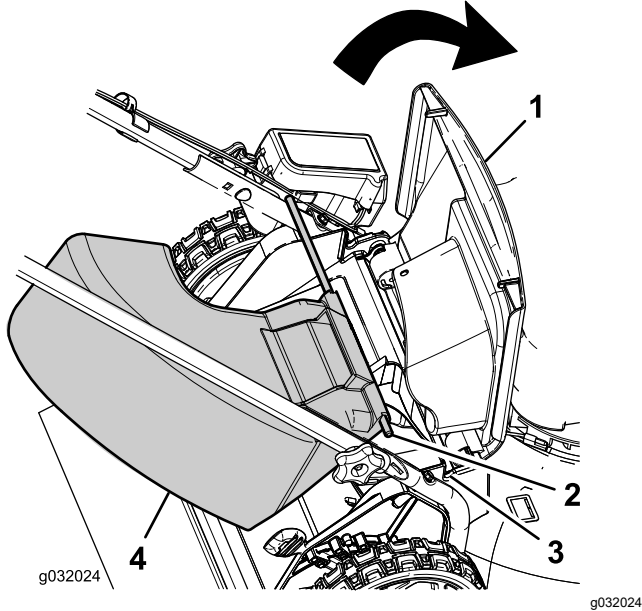

Figure 14
1. Lift up the rear deflector (Figure 14).
2. Insert the rod ends of the side-discharge chute into the notches on the handle brackets (Figure 14).